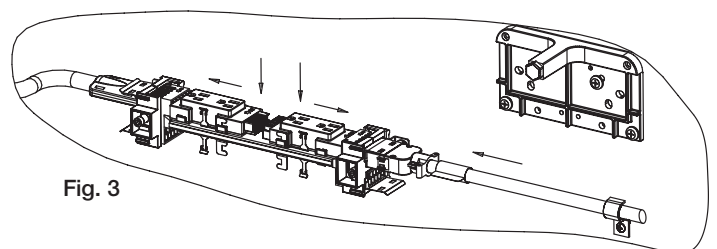

Fig. 3
3. Install 1-4 receptacles to the distribution harness by positioning into the mounting bracket and sliding it toward the electrical distribution assembly as shown. Orient appropriately as indicated by arrows on duplex receptacle and distribution harness. (Fig. 3)
4. Connect appropriate jumper cable(s) to the distribution harness. Orient appropriately as indicated by arrows on jumper cable and distribution harness. Secure jumper cables to underside of storage unit via provided conduit. **(Fig. 3)**